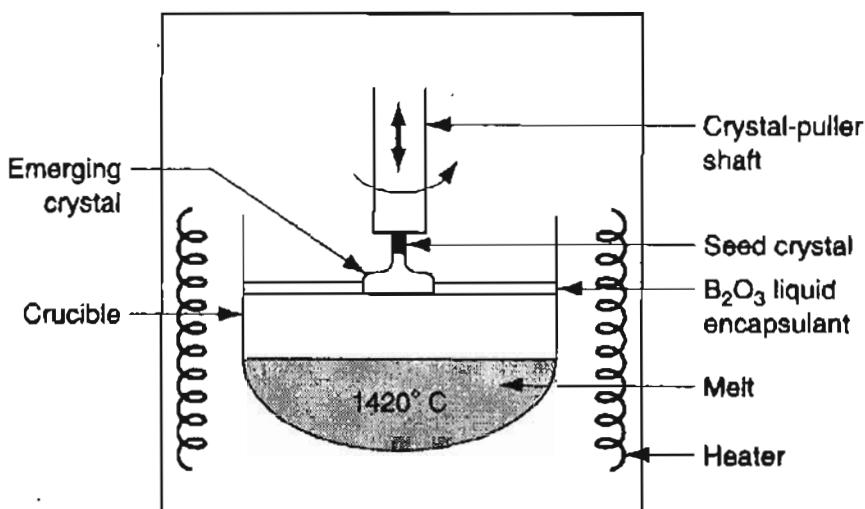

Figure P6.20
- ✓*6.20 Silicon rods used in the manufacture of chips can be prepared by the Czochralski (LEC) process in which a cylinder of rotating silicon is slowly drawn from a heated bath. Examine Fig. P6.20. If the initial bath contains 62 kg of silicon, and a cylindrical ingot 17.5 cm in diameter is to be removed slowly from the melt at the rate of 3 mm per minute, how long will it take to remove one-half of the silicon? What is the accumulation of silicon in the melt?